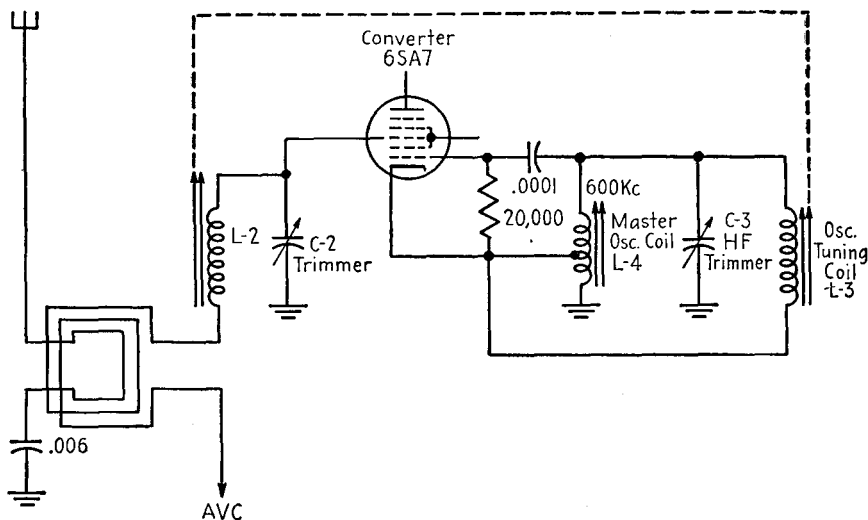

FIG. 15-17.—Two-coil permeability tuner fed by a loop antenna.
Antenna plates are commonly used in receivers employing permeability tuners. However, there are some receivers that employ a loop antenna. Figure 15-17 shows a two-gang permeability tuner of the screw-drive type fed by a loop antenna.
8. What is the function of *L*-4 in Fig. 15-17? What is the function of *L*-3 in the same drawing?